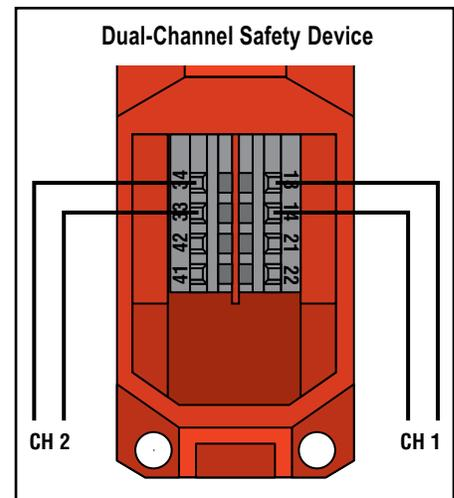

Figure 6. Wire the two switch contacts in series
The switches have redundant contacts; terminals 21/22 and 41/42 are positive opening when there is a cable-pull or cable-brake situation. When used separately, these contacts provide inputs to a dual-channel safety module (see Figure 6). Terminals 21/22 and 41/42 can also be used individually to provide single-channel switching or as a single-channel input to a safety module. Terminals 13/14 and 33/34 are for monitoring purposes only (closed in a cable-brake/-pull situation).
**Dual-Channel Output:** Wire contacts 21/22 and 41/42 independently to the two safety module inputs (see Figure 6).
Following the pulling of the rope or the pressing of the E-stop button (model RP-LS42F-75LE), the latch must be reset. The procedure differs slightly between the two models. See Figure 6.